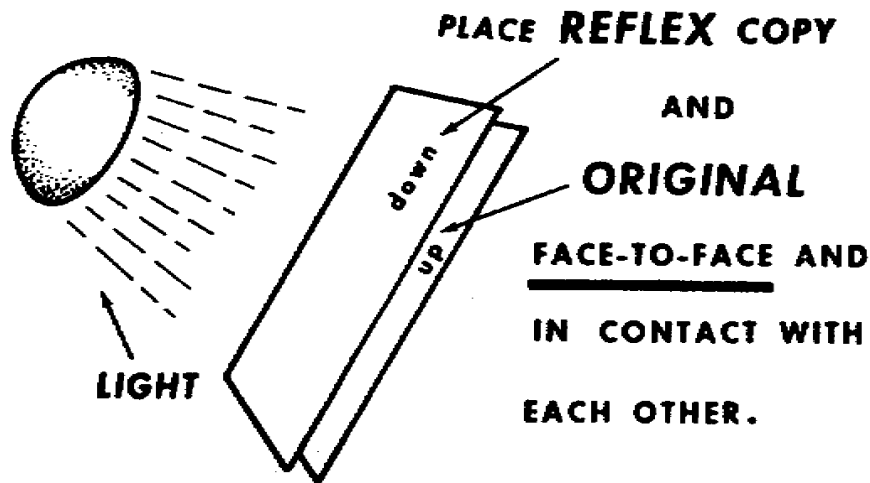

Figure 3-14. Image copy
(3) When the original is either opaque or printed on both sides, an intermediate negative copy must be made. The original and the reflex copy paper are placed face-to-face and exposure is made by shining light through the reflex copy paper (fig 3-14). The result of the intermediate step is a mirror image in that words are printed backwards, laterally reversed. By using this mirror image copy after development as the original, and repeating the process mentioned before, you can produce a normal copy print.